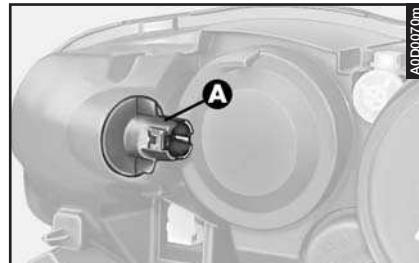

fig. 35
- Turn counter-clockwise and remove the bulb holder (**A**- **fig. 35**) without disconnecting the connector.